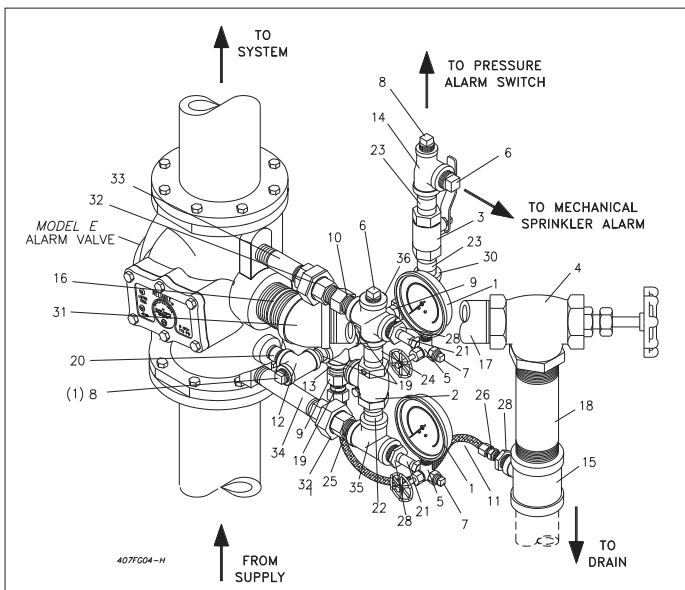

Fig. 4 Constant Pressure Vertical Installation
Constant Pressure (Figure 4 & 6)
When the water ceases to flow through the Alarm Valve, the Clapper (4) returns to its seat thus stopping the flow of water to the retard chamber. Drain Orifices (Item 9, Fig. 4 & 6) allow the retard chamber and alarm line to empty through the drain line (Item 11, Fig. 4 & 6).